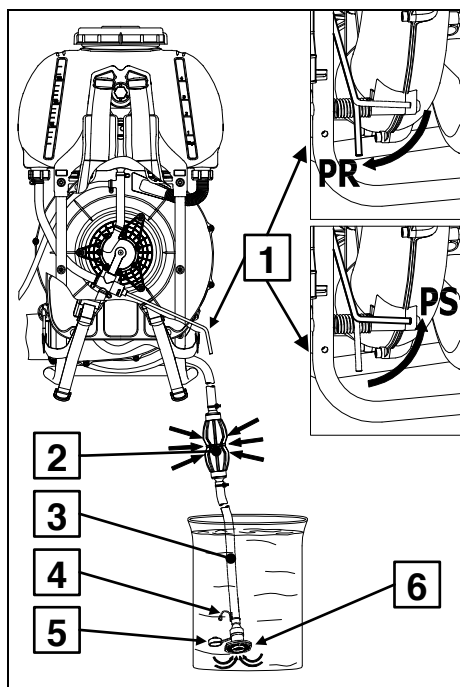

Figure 6 Booster and filling pump
The pump PSR performs the function of boosting and filling of the liquid tank without removing the device from the shoulders. To select one of the functions of the pump, move the lever as shown in Figure 6 pos.1.
Operating as a filling pump: in order to fill the liquid tank with the pump, see Figure 6 on this page and proceed as follows:
Operating as a booster pump: Verify the the lever (Figure 6 position 1) is in PS position. Refer to the following table that provides the data of the liquids flow rate in the 9 positions of the spreader (The mist blower MB90 / AT900 User manual).